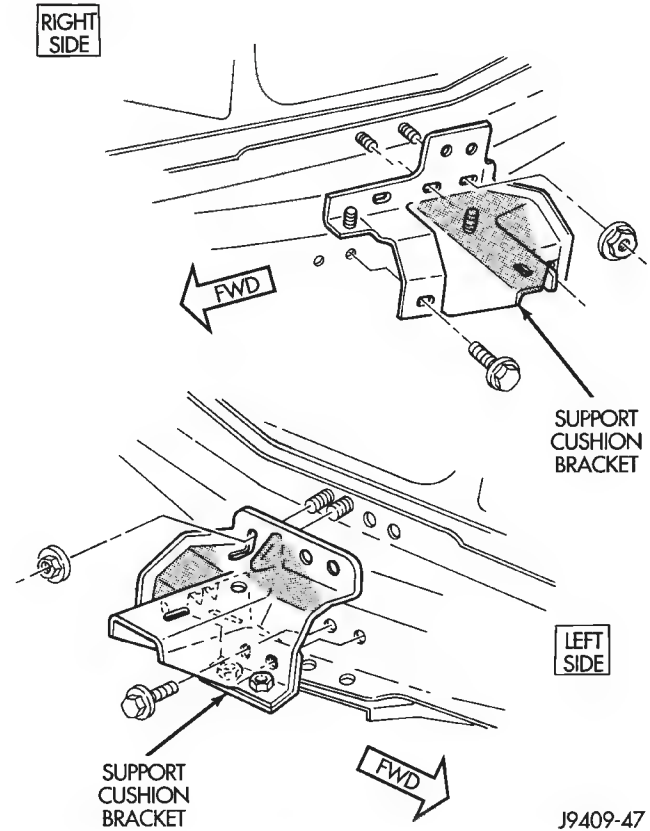

Fig. 8 Support Cushion Bracket—XJ Vehicles
- (2) ON XJ VEHICLES, if the support cushion bracket was removed, position the bracket onto the lower front sill (Fig. 8). Install support cushion bracket bolts and nuts. Tighten the bolts to 54 N·m (40 ft. lbs.) torque. Tighten the nuts to 41 N·m (30 ft. lbs.) torque.